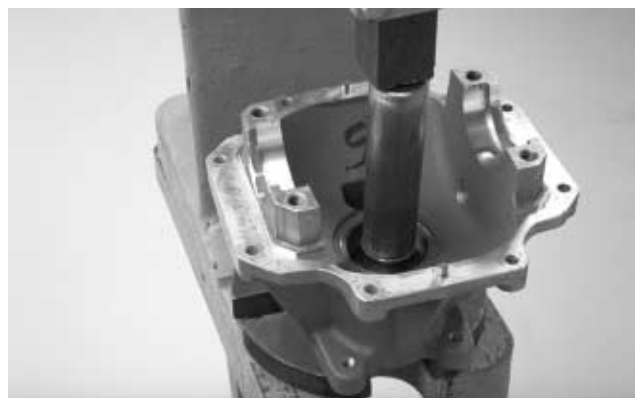

Figure 33
**Note:** Remove bearing cup (23) from the carrier housing (15) **only** if it needs replacing (see Inspection).
13. Press bearing cup (23) from the carrier assembly (15) (Fig. 33).